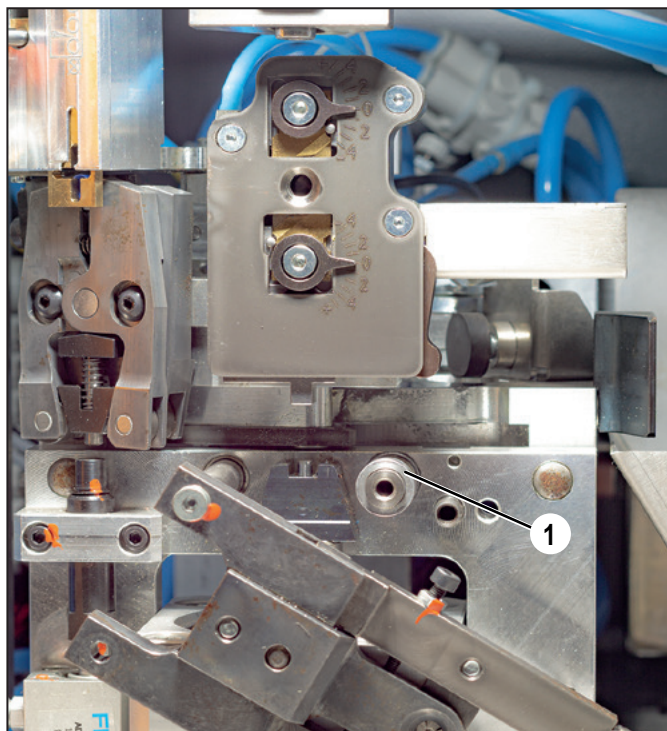

Figure 7.5 Detached stranded wire fixing unit
Make sure that the spacer ring which sits on the right-hand shaft is not lost (Figure 7.5, 1).
- ▶ Check whether the rollers (1) on the crimp tool can move freely.
- ▶ Check whether the rollers (2) on the ferrule-holding tongs can move freely.
- ▶ Oil the guide pin (3) of the ferrule-holding unit.
- ▶ Oil the lateral running surfaces (4) of the ferrule-holding unit.
- ▶ Re-insert the strand fixing unit and make sure that the spacer ring (Figure 7.5, 1) is seated on the right-hand shaft.